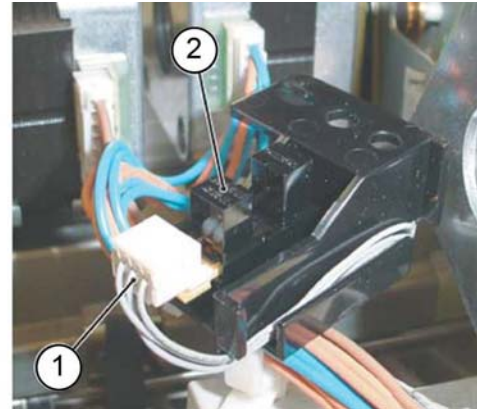

Figure 4 Front tamper home sensor removal
9. Remove the front tamper home sensor, Figure 4:
- a. Disconnect the connector (1).
- b. Remove the front tamper home sensor (2).